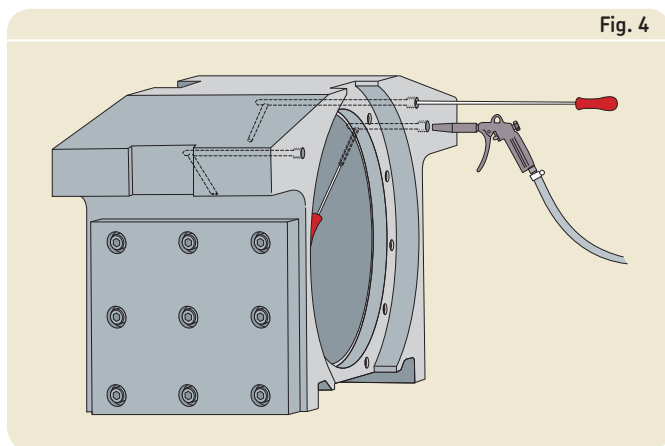

Fig. 4
- Clean the lubrication and ventilation ducts with compressed air and solvent (→ **fig. 4**)